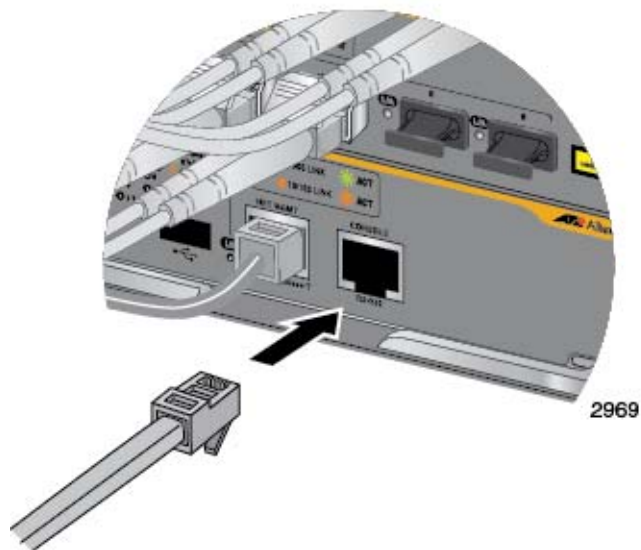

Figure 128. Connecting the Management Cable to the Console RS-232 Port
1. Connect the RJ-45 end of the management card included with the AT-SBx81CFC400 Controller Fabric Card to the Console RS-232 port on the front panel of the AT-SBx81CFC400 Control Card, as shown in Figure 128. If the chassis has two controller cards, you must connect the cable to the Console RS-232 port on the active master card. To determine which card is the active master controller card, examine the CFC LEDs. The LEDs are green on the active master controller card and amber on the standby master controller card.